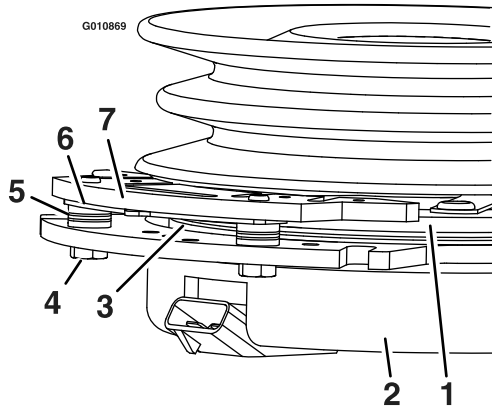

**Figure 67**
3. Remove the dust cap from caster and tighten lock nut (Figure 67).
4. Tighten the locknut until the spring washers are flat and then back off a 1/4 turn to properly set the pre-load on the bearings (Figure 67).
**Important:** Make sure the spring washers are installed correctly as shown in Figure 67.
5. Install the dust cap (Figure 67).